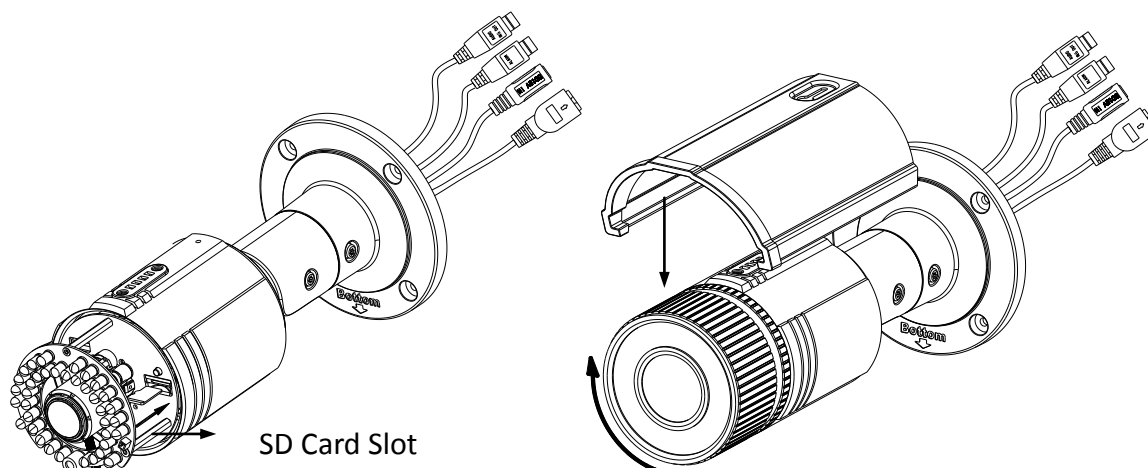

Figure 4-27 Install the SD Card
5. Rotate the front cover clockwise back to the camera and install the sun shield according to the arrow direction as shown in Figure 4-27(right).